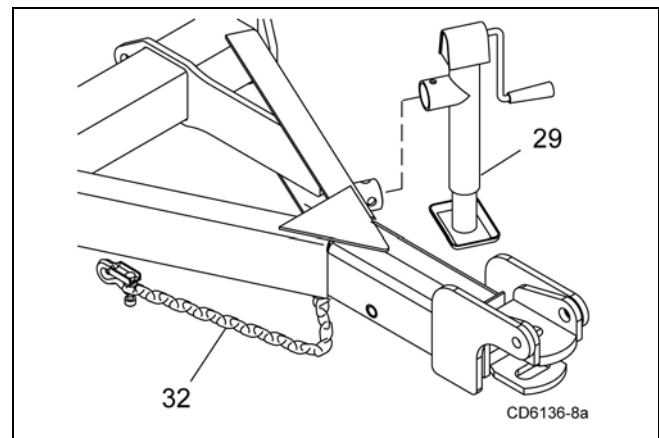

Figure 1. Cutter to Tractor Connection
2. Attach safety tow chain (32) to drawbar support. Leave enough slack for turning (Figure 1).
5. Remove parking jack (29) from the tongue and attach it to the storage post on the front of the left wing.